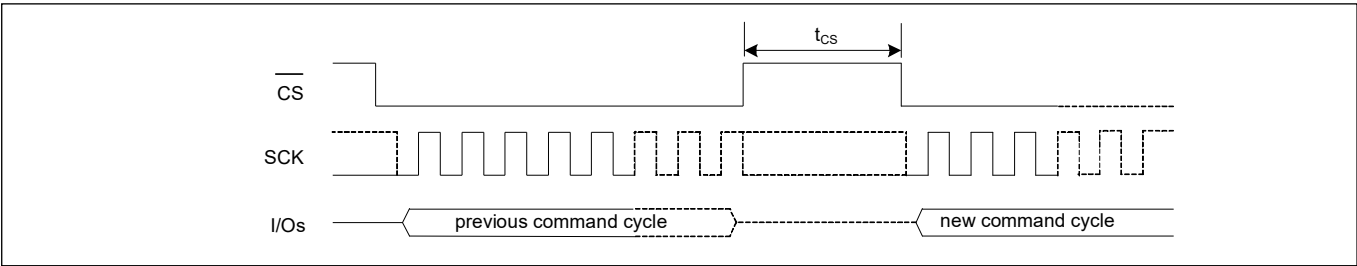

Figure 117 Chip deselect (\overline{CS} HIGH) - t_{CS} timing
24. t_{CS} is the minimum chip deselect (\overline{CS} HIGH) time before the new command cycle starts in a specific SPI mode (SPI, DPI or QPI). This parameter ensures that previous operation is successfully completed before the host starts a new command cycle. Refer to **Figure 117**.
24. t_{CS} is the minimum chip deselect (\overline{CS} HIGH) time before the new command cycle starts in a specific SPI mode (SPI, DPI or QPI). This parameter ensures that previous operation is successfully completed before the host starts a new command cycle. Refer to Figure 117.
29. t_{CS} is the minimum chip deselect (\overline{CS} HIGH) time before the new command cycle starts in a specific SPI mode (SPI or QPI). This parameter ensures that previous operation is successfully completed before the host starts a new command cycle. Refer to **Figure 117**.